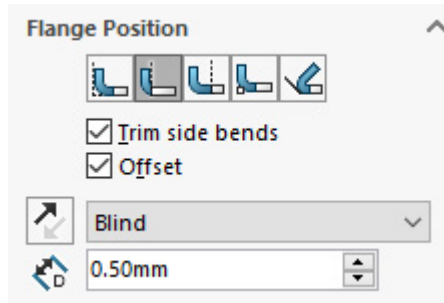

Figure 13.19 – Offsetting the Edge Flanges on the lid
1. Edit the **Edge Flange** feature and select the **Offset** option from the **Flange Position** section. The exact clearance amount depends on the tolerances – set by your budget, manufacturing processes, and your design requirements – but in this example, input a value of **0.5mm** (Figure 13.19):